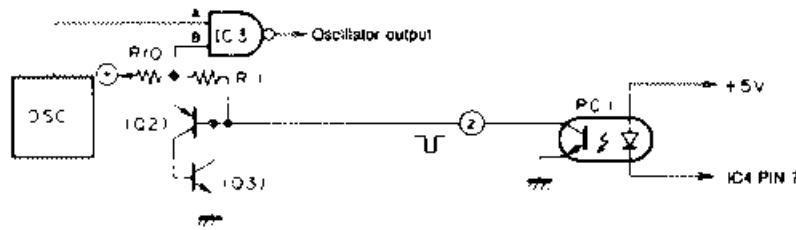

FIGURE 2-9. EXCESS VOLTAGE PROTECTOR
2.2.5 Protection Circuitry (Figures 2-9 through 2-11)